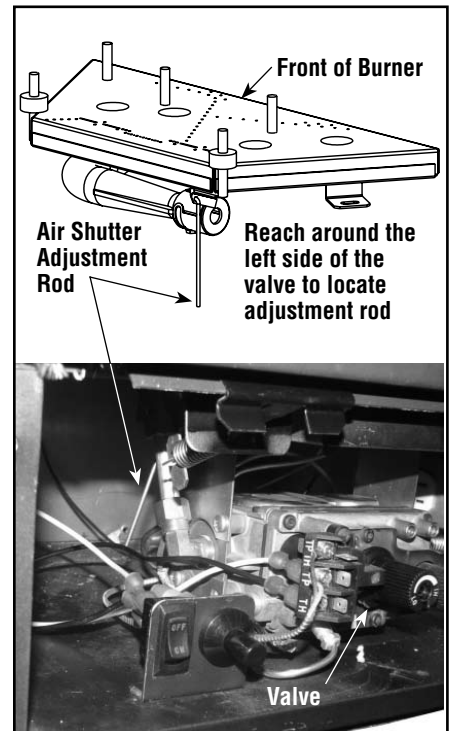

Figure 50 - Burner Flame Appearance
*Note: See **Figure 50** for proper burner flame appearance.*